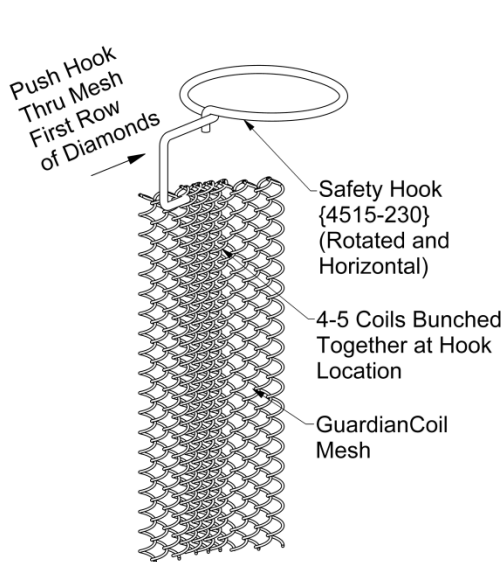

Figure 8
- Step 3:** Push and twist the Hook through the first row of diamonds as shown in Figure 8.